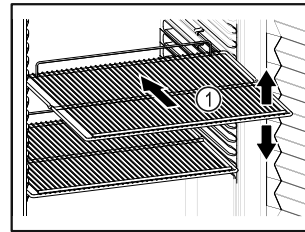

Fig. 75 Example illustration
- ❑ If there are adjustable shelves Fig. 75 (1), position them as required.